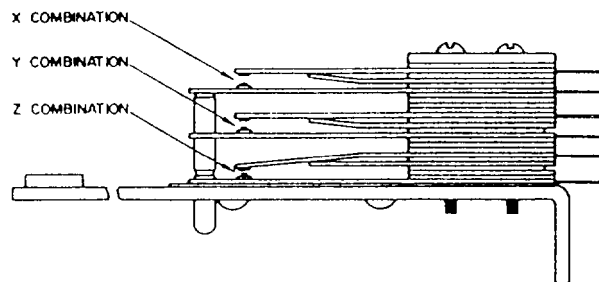

Figure 6-17.—Hookswitch assembly.
**Hookswitch Contact Springs.**— Figure 6-17 is an illustration of the hookswitch assembly. To adjust